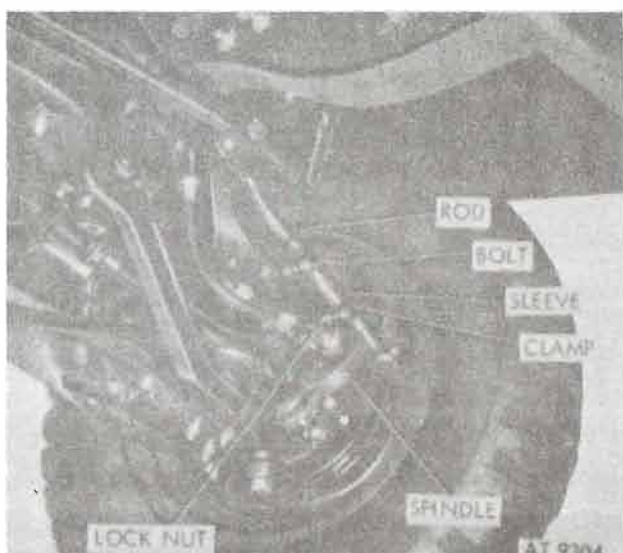

Figure 10-70. Toe-in adjustment
(6) *Adjustment procedures.* Loosen locknut on two clamps at both spindle arm tie rod adjusting sleeves. Lengthen or shorten both connecting rods equally; the right- and left-connecting rod sleeves must be turned an equal number of turns, but each in an opposite direction. Refer to figure 10-70.